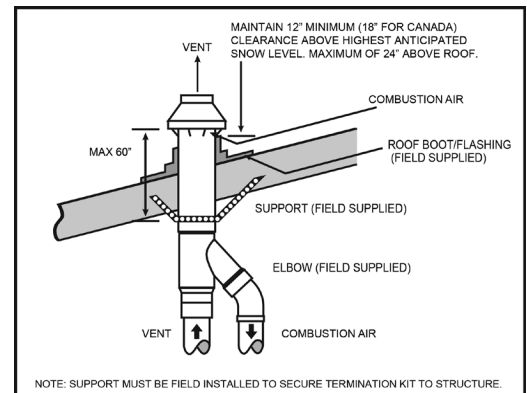

Figure 4 - Roof Installation
5. Secure assembly to roof structure as shown in Fig. 4 using field supplied metal strapping or equivalent support material.
NOTE: If assembly is too short to meet height requirements, the two pipes supplied in the kit may be replaced by using same diameter, field supplied SDR-26 PVC (D2241) pipe. Do not extend dimension D more than 60" (See Fig. 4.) **DO NOT USE COUPLINGS TO EXTEND PIPE.**
7. Cement air inlet and exhaust vent pipes to concentric vent termination assembly. See Fig. 4 for proper pipe attachment.